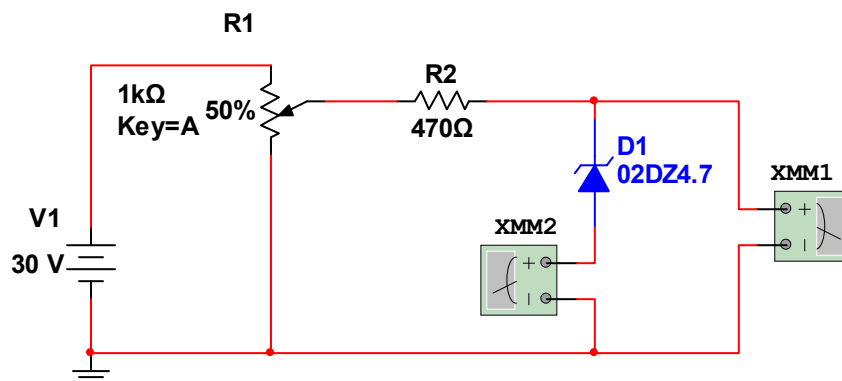

Figure 2.1: Forward Bias Circuit of Zener Diode
- ❖ For forward bias characteristic, make the connections as shown in the figure 2.1.